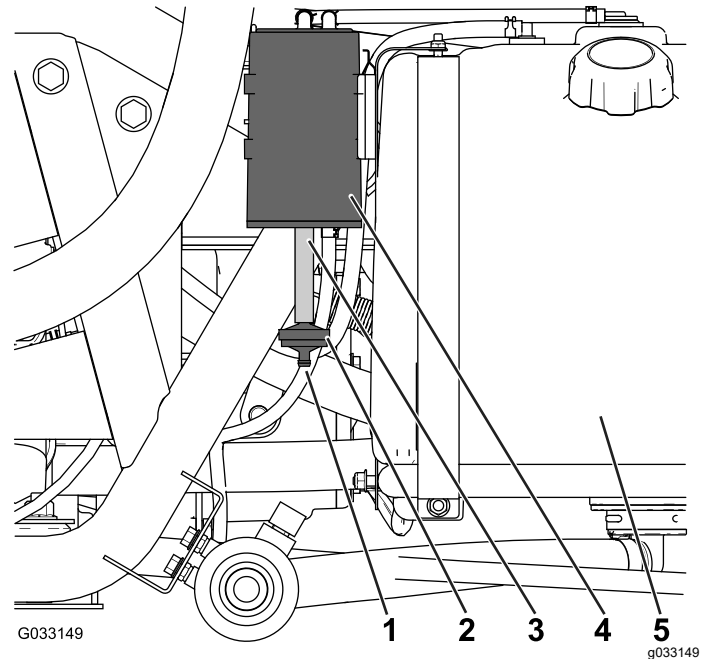

Figure 47
Check the opening at the bottom of the air filter for the carbon canister to ensure that it is clean and free of debris and obstructions (Figure 47).
1. Remove the barbed fitting of the carbon-canister filter from the hose at the bottom of the carbon canister, and remove the filter (Figure 47).